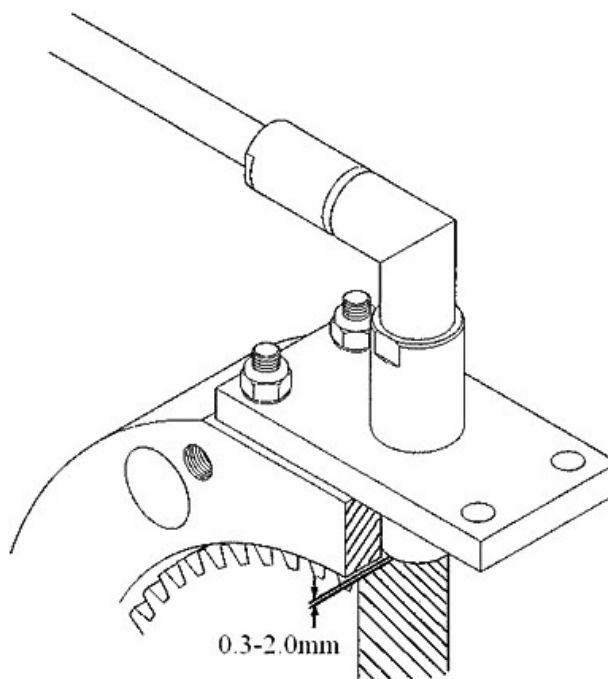

Figure 35.2: Westinghouse Speed Sensor Probe Gap
- 35.1 Check that 'O' ring (5) are present on the speed probes (4).
- NOTE 35A: Take care during the next step not to allow the tip of the probe to touch the toothed wheel. A small gap must always be left between the two faces as indicated in Figure 35.2.
- 35.2 Taking care not to damage 'O' ring (5), insert each speed sensor probe (4) in the distance piece (6) and secure with nuts (13) and washers (2) or M8 screws (1), M8 Spring Washer (2) and M8 Plain Washer (3).
- 35.3 Measure the distance between the tip of each speed probe and the tips of the teeth on the toothed wheels (see Figure 35.2). This must be 0.3 to 2.0mm.